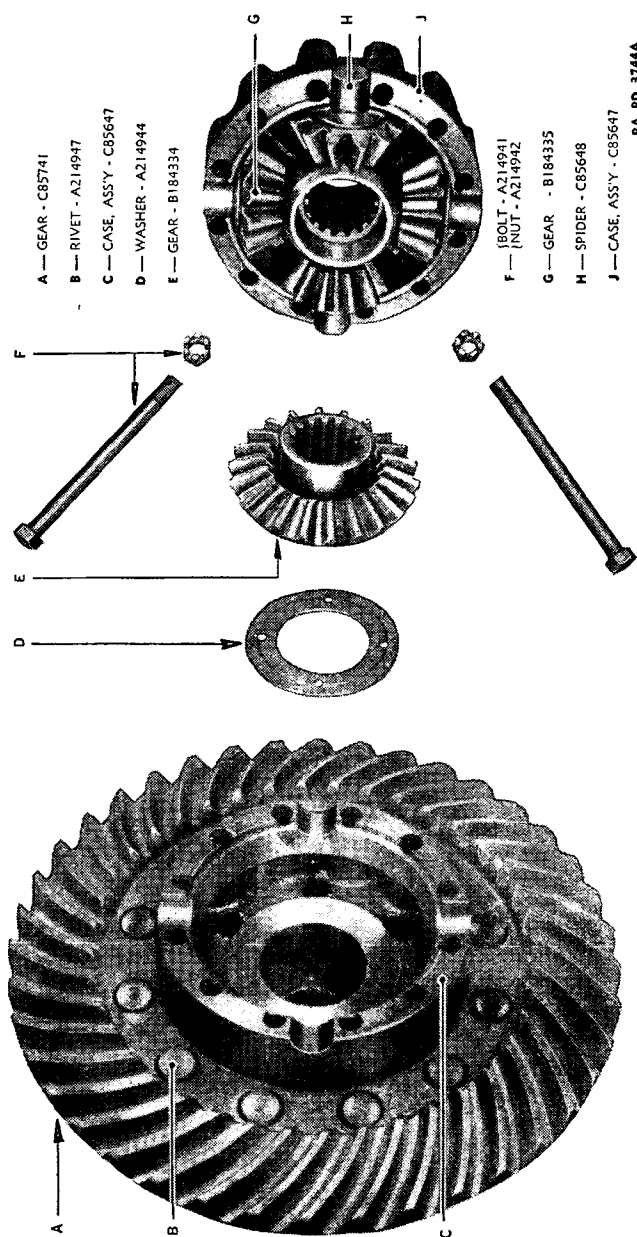

FIGURE 59.—Rear axle differential assembly, exploded.
(7) Disassemble case—bearing puller. Follow steps in paragraph 14f(8) and (9) (fig. 59).